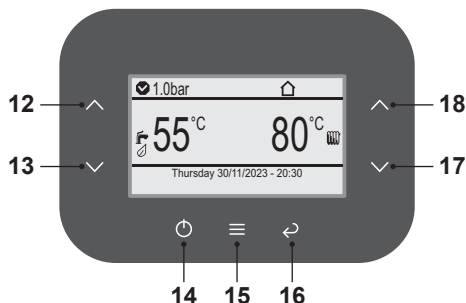
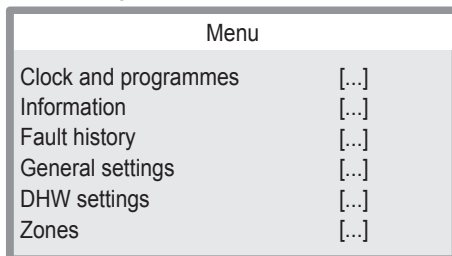
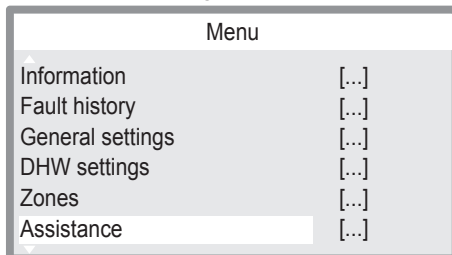

Fig. 10.1
Fig. 10.2
Fig. 10.3
- Press key 15 (Fig. 10.1) to go to the main menu (Fig. 10.2).
- Press key 12 or 13 (Fig. 10.1) to select the desired menu (Fig. 10.3).
- Press key 15 (Fig. 10.1) to access the selected menu (Fig. 10.4).
- Press key 12 or 13 (Fig. 10.1) to select the desired menu from those available (Fig. 10.5).
- Press key 15 (Fig. 10.1) again to highlight the value to be changed.
- Press key 15 (Fig. 10.1) to confirm the change or key 16 to exit without changing the value (return to previous level).